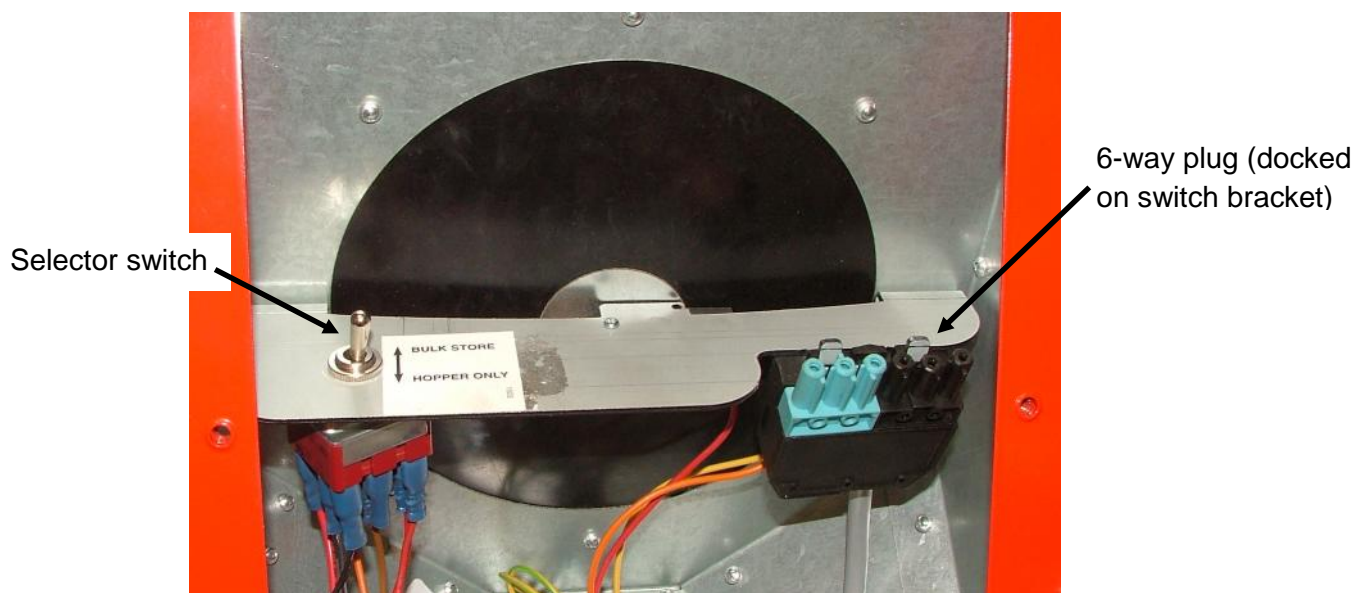

Figure 5-1. Location of selector switch (inside hopper wiring centre)
Note: The hopper is fitted with a selector switch (located inside the wiring centre). Ensure that this switch is set to the 'BULK STORE' position when connecting the 6-way pre-wired plug from the hopper to the Vacuum unit. See Figure 5-1.
- Set the selector switch on the diaphragm switch bracket to the 'BULK STORE' position. See Figure 5-1.